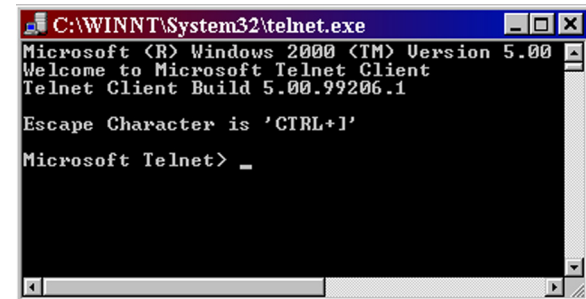

Figure 4-18 — Telnet command prompt
- From the Windows Start menu, Click Run, then enter "Telnet" and click OK. The Telnet program starts (see figure 4-18).